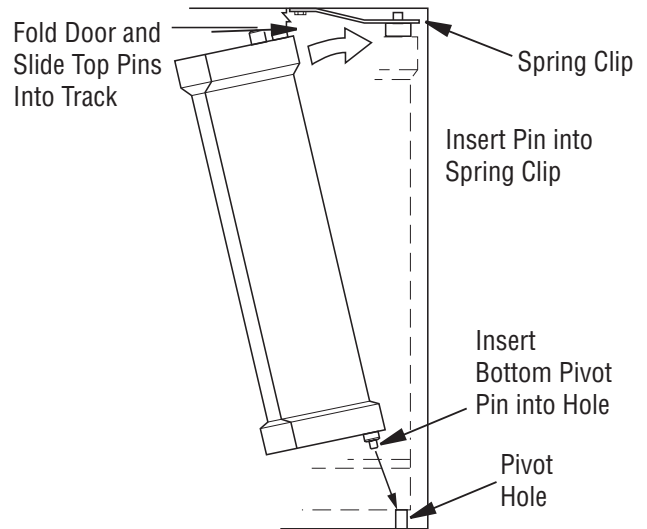

Figure 41 - Installing Bi-Fold Doors
4. With bi-fold doors completely folded, insert bottom pivot pin into pivot hole located near bottom corner of front face opening and swing door to vertical position making sure top pins slide into door track. Door is installed when top door pin snaps into spring clip (see Figure 41).